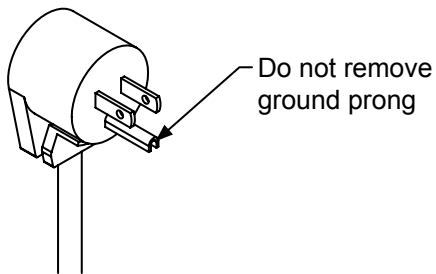

Figure 3
- Do not remove the grounding prong from the power cord. See Figure 3.